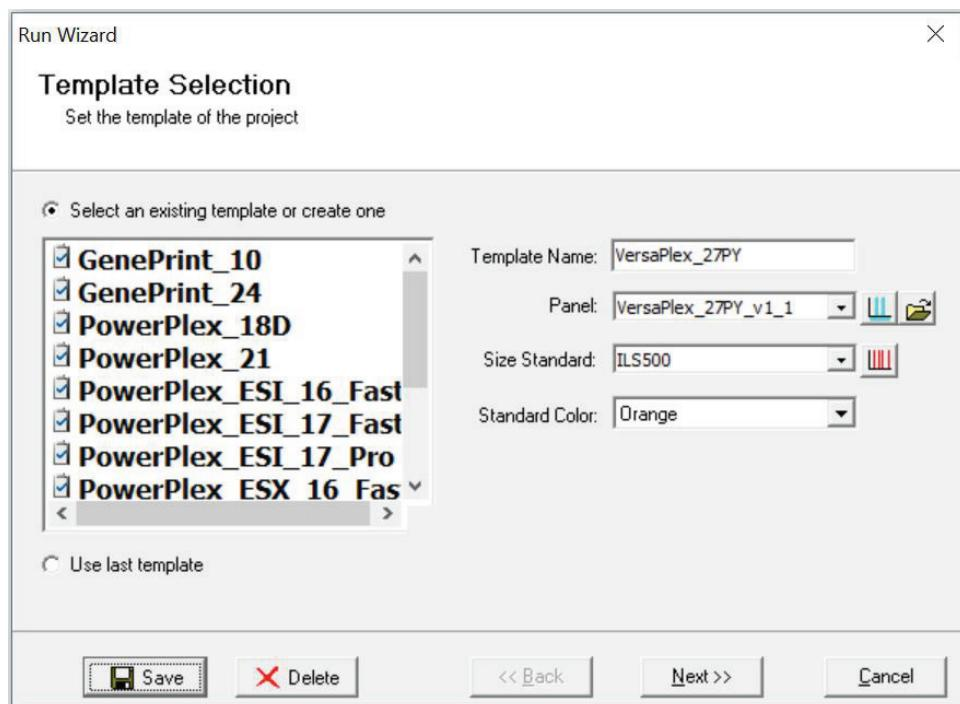

Figure 29. The ‘Template Selection’ window.
8. Select **Run** in the Magic Wizard or choose the **Run Project** icon (green arrow) in the toolbar. The ‘Template Selection’ screen will appear (Figure 29).